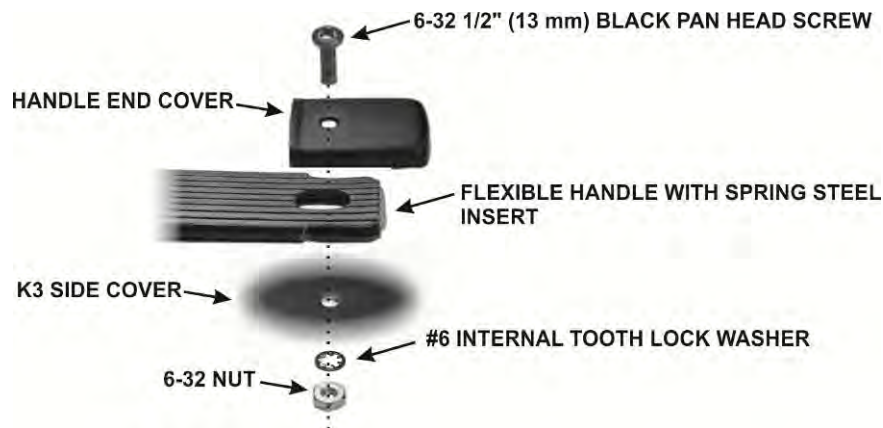

Figure 64. Installing Side Handle Mounting Hardware.
Mount an SO239 connector in the ANT1 position on the rear panel using two 4-40 1/4" (6.4 mm) black pan head screws (SS), two 4-40 internal tooth lock washers and two 4-40 nuts as shown in Figure 64. The flange of the SO239 connector is on the inside (unpainted side) of the rear panel.
□ Turn the chassis upside down and position the front panel assembly so the pins of P30 and P35 on the bottom of the RF board just begin to engage the connectors on the lower edge of the front panel assembly (see Figure 64). Do not fully mate them yet.
- Attach the handle to the left side cover using the hardware shown in Figure 64 at each end. The ribbed side of the handle faces away from the panel. Tighten the screws enough to compress the lock washers, but do not tighten the screws so much that you deform the handle end cover. The handle should move easily to allow room for your fingers between the handle and cover for carrying, then lie flat against the cover when it is not in use.